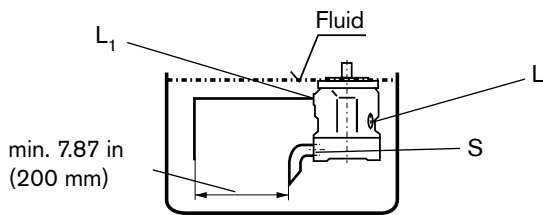

Fig. 1
a) If the min. fluid level is equal to or above the pump mounting face: plug port "L", " L_1 " and "S" open; it is recommended to pipe " L_1 " and connect a suction pipe to "S" (see fig. 1).